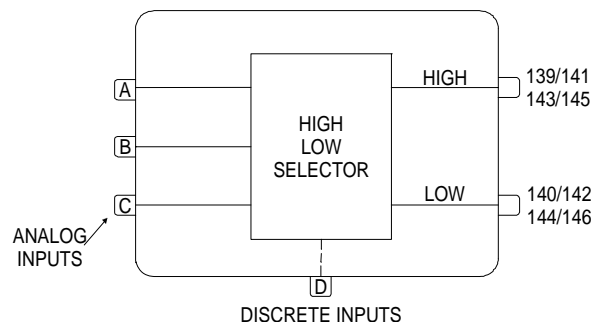

Fig 3A - Typical Block
Each block has one **Linking Parameter (L)** for each input. A block with 3 inputs has the **Linking Parameters LIA, LIB, and LIC** (Link Input A, B and C). If the HIGH-LOW selector block shown in Figure 3A has **LIA=2**, that means that the input A of that block is on.